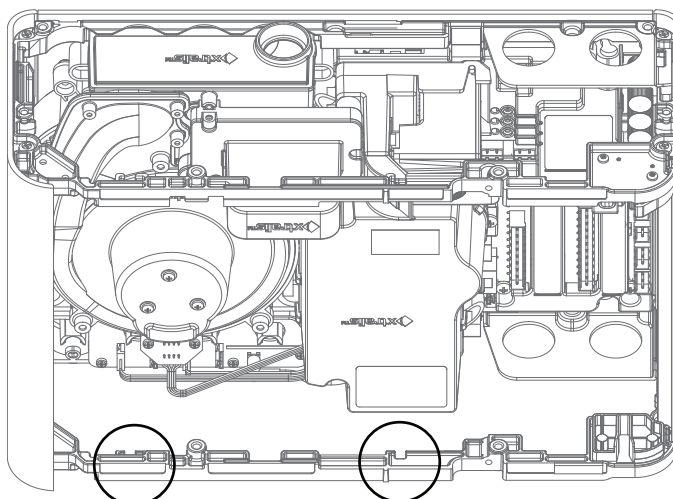

Figure 4-15: Re-attach tethers at circled positions
8. Re-attach the tethers. Attach at the slots circled in Figure 4-15. Position the tethers in the slots and pull up as shown in Figure 4-16.